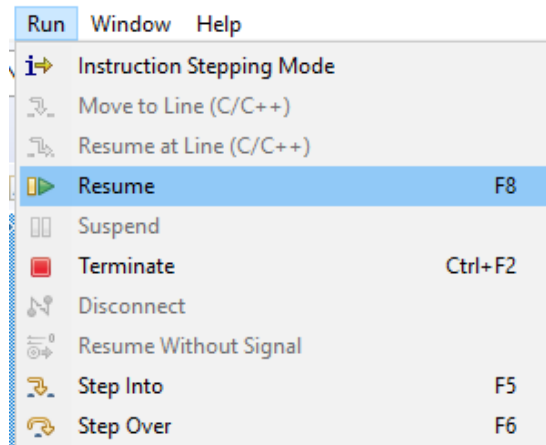

Figure 3-6 Free Run
1. **Free Run** the test code as shown in Figure 3-6.